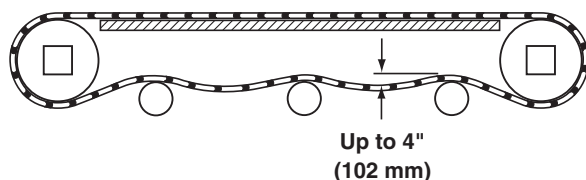

Figure 51
4. Check belt sag by measuring from the top of the return (**Figure 51**). Belt sag should not exceed 4" (102 mm). Follow steps 7 – 9 in the “Belt Installation” section on page 15 to remove slack from the belt.